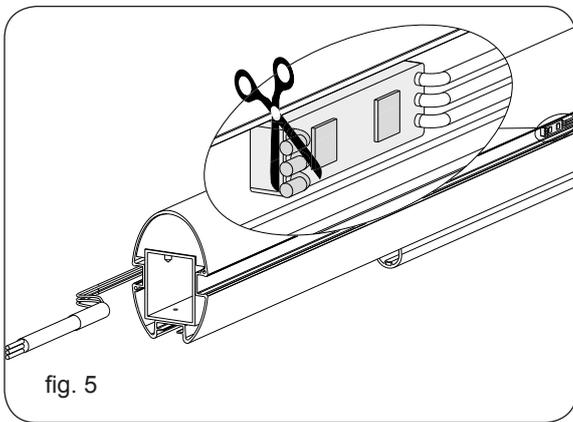

fig. 5
- 4_ Shorten the led strip in excess by cutting the wires as shown in fig. 5, making sure to disconnect the power supply to the power plant first and then isolate the part of the cables that remain uncovered.
- 3_ Shorten the led strip in excess by cutting the wires as shown in fig. 5, making sure to disconnect the power supply to the power plant first and then isolate the part of the cables that remain uncovered.